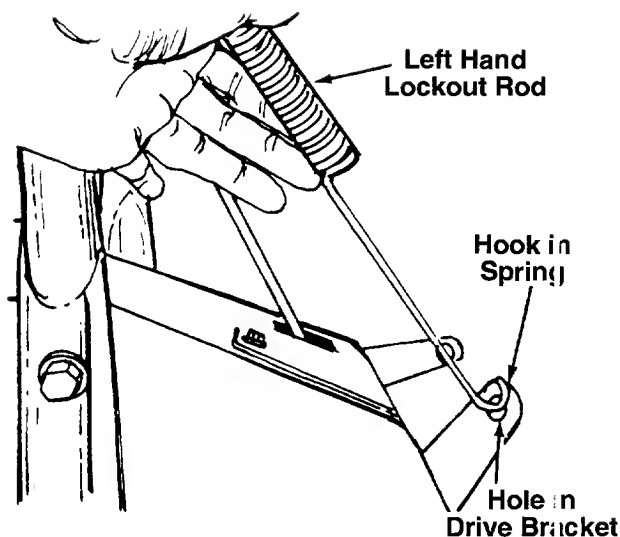

FIGURE 15.
21. Swing the left hand lockout rod down and simply hold it beside the drive bracket. Do not pull on spring. Do not move bracket. The hook on the end of the spring must line up with the center of the hole in the drive bracket. See figure 15.
If it does not, adjust the nut on the lockout rod by sliding the spring up and using a 7/16" wrench to move the nut on the end of the rod up or down as necessary until the hook on the spring aligns with the center of the hole in the bracket as shown in figure 15.